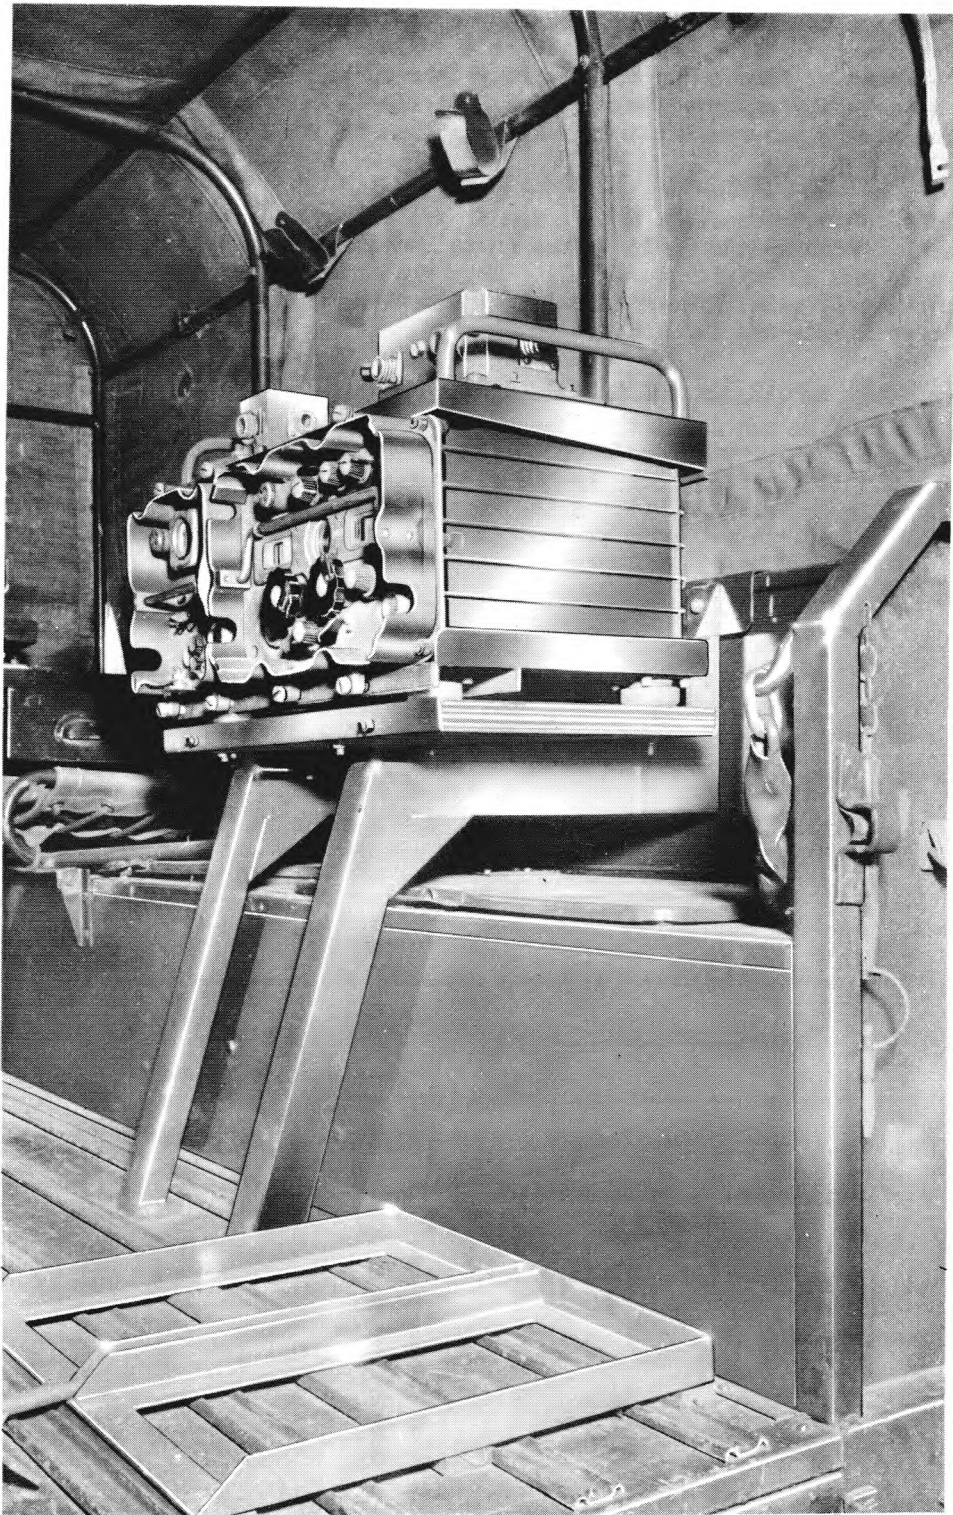

FIG. 58 RADIO SET POSITION IN RH REAR CORNER
Drilling will be required in the top of the vehicle table to fit the table runners, and when necessary in the floor and RH wall to fit the support for the third radio set. See fig. 58. If the truck has previously been used in a VHF radio role the holes for the ATU mounting on the LH front wing may exist.
Stow two 12V 75 Ah batteries in the carrier in the RH rear corner when a set is to be used in this position. See fig. 58.
- (c) When three pairs of batteries are installed, fit the third battery earth lead to the spare earth terminal on the front of the 23-in. table. See fig. 58.
(6) Battery connectors